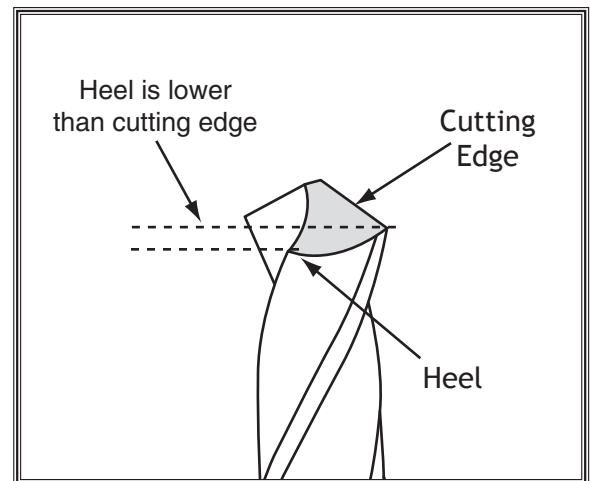

Figure 6. Heel must be lower than the cutting edge.
12. If necessary, loosen the clamp thumb screw and use the feed and lock wheels to advance and secure the drill bit toward the grinding wheel for additional sharpening, then repeat **Steps 9-11** until you are satisfied with the cutting edge of the bit (see **Figure 6**).
15. When the grinding wheel is completely stopped, remove the drill bit and inspect the heels behind the cutting edges. To enable the drill to properly cut material, the heel must be lower and slope down from the cutting edge, as shown in **Figure 6**.